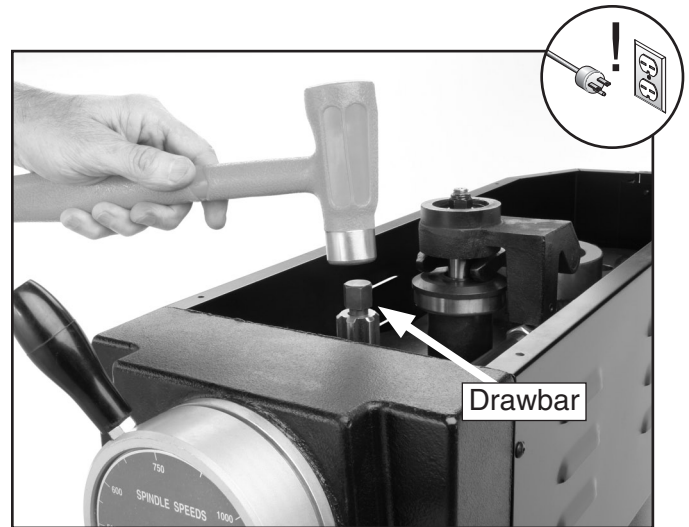

Figure 22. Tapping top of drawbar.
4. Use a 17mm wrench to unscrew the drawbar 2–3 full turns without removing the threads from the arbor (see **Figure 22**).
5. Using a brass hammer or rubber mallet, strike the drawbar from the top, as shown in **Figure 22**, with a firm blow until the arbor releases from the spindle.